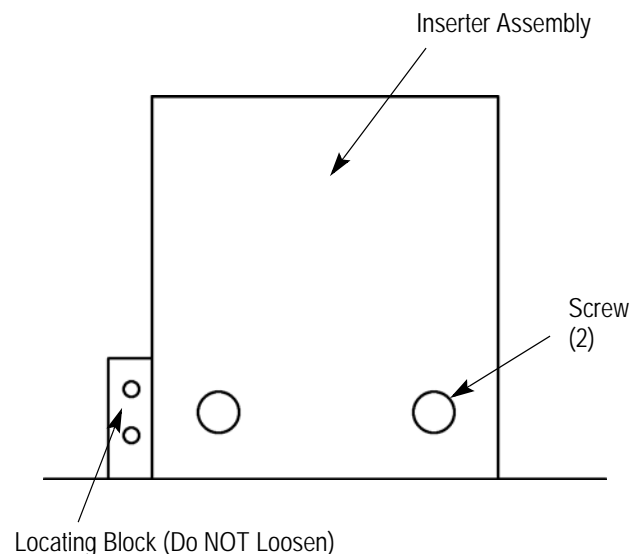

Figure 9
4. Position inserter on the handle against locating block. Push the inserter down against the locating block (Figure 9) and back against the handle.
5. Tighten the two screws (Figure 9). The inserter should now be aligned.